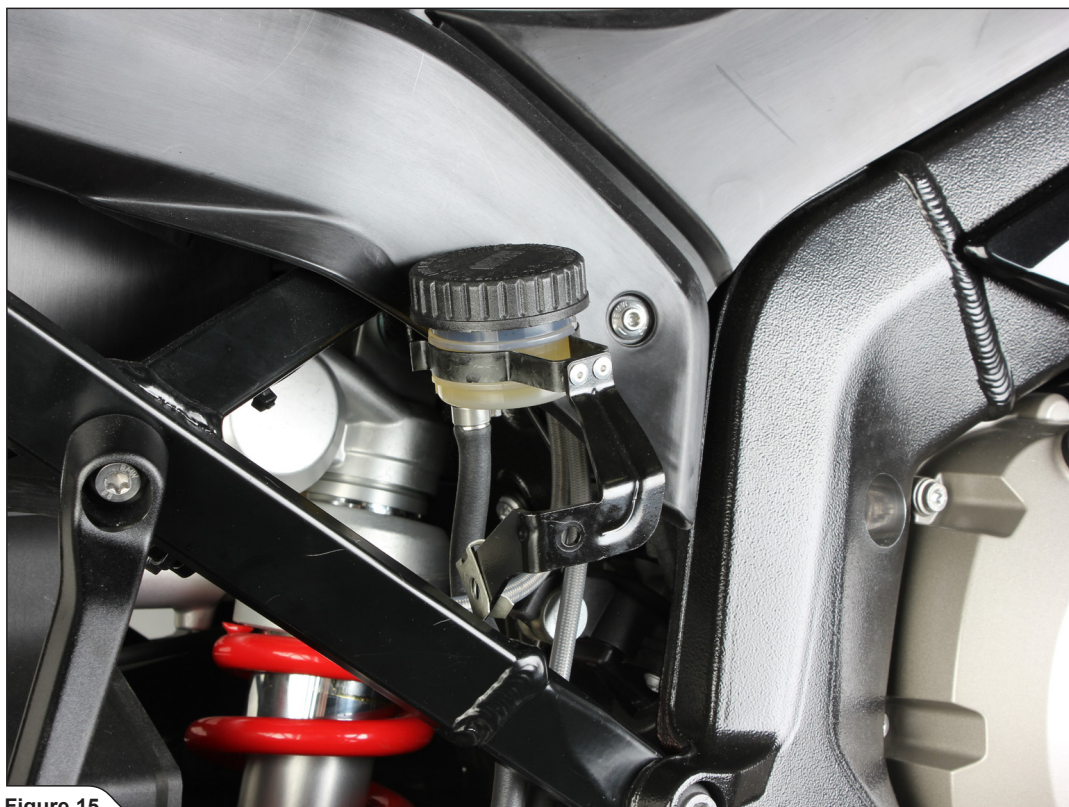

Figure 15
10. Carefully move the reservoir and bracket out of the way (**Figure 15**).